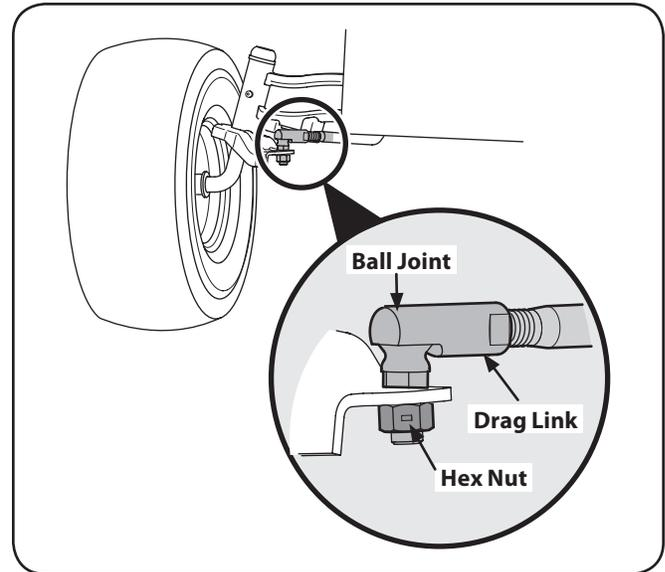

Figure 6-6
1. Remove the hex nut below the ball joint. See Fig. 6-6.